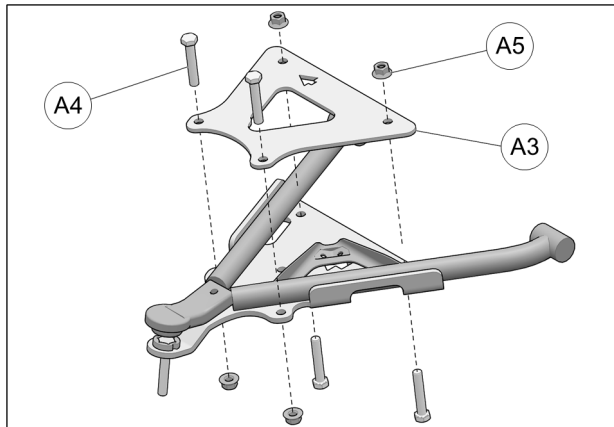

Fig. 16
7. Position the top part (**A3**) of the anchor bracket kit on the lower suspension a-arm. Insert assembly bolts (**A4**) as shown in Fig. 16: outside bolts from the top down and inside bolts from the bottom up. Use the provided nuts (**A5**) to secure assembly. See Fig. 16